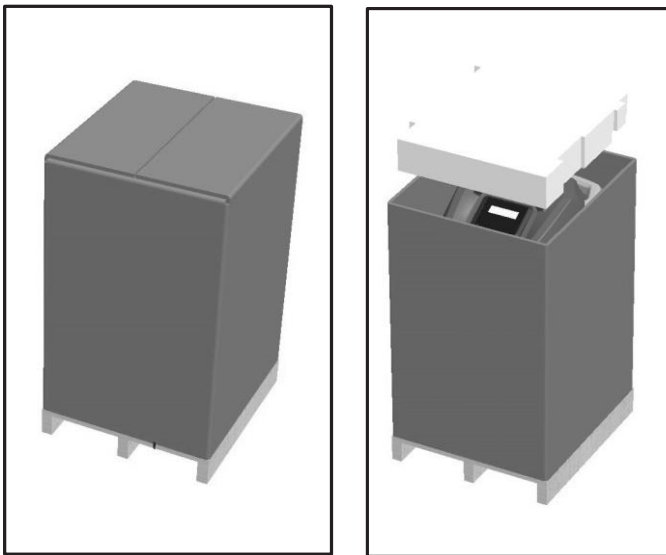

Fig. 10: Removing carton
- Remove staples and remove the carton (Fig. 10)